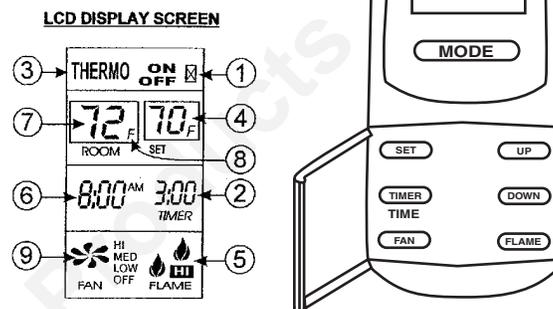

Figure 8. Transmitter LCD Display Screen
1. Press and hold the TIMER/TIME button on the transmitter for more than two seconds. The hour digit(s) will begin flashing (see Figure 8, Location #6).